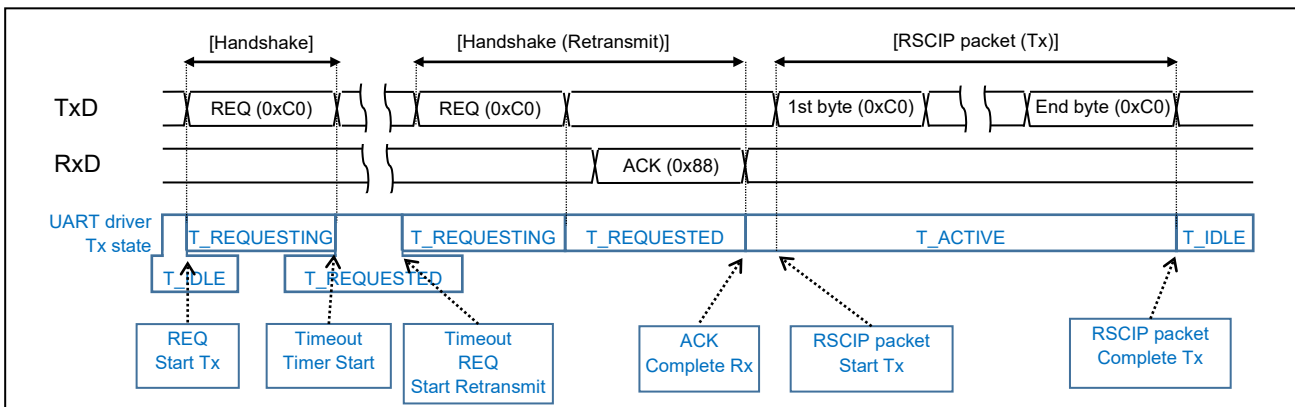

Figure 4-5 ACK byte reception time-out
- (c) ACK byte reception time-out (Figure 4-5)